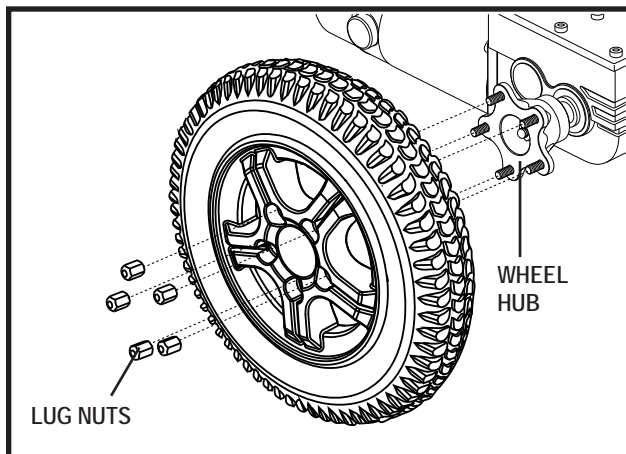

Figure 19. Quantum 600 Sport Series Drive Wheel
4. Remove the five (5) lug nuts from the wheel hub. **See figure 19.**